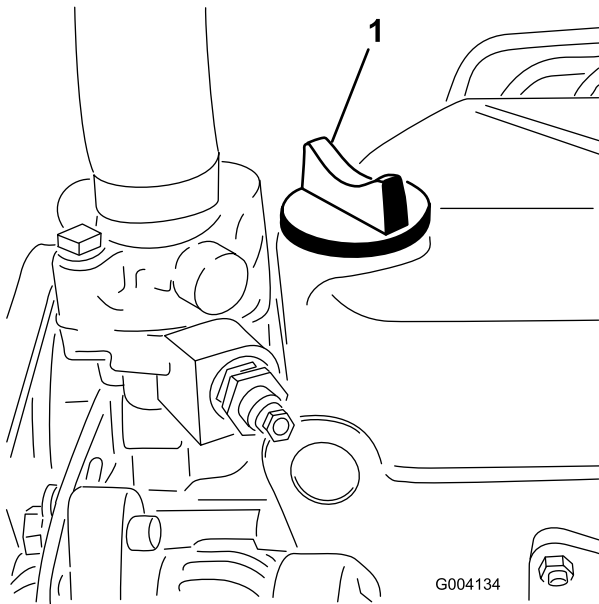

Figure 20
5. If the oil level is below the Full mark, remove the fill cap (Figure 20) and add oil until level reaches the Full mark on dipstick.